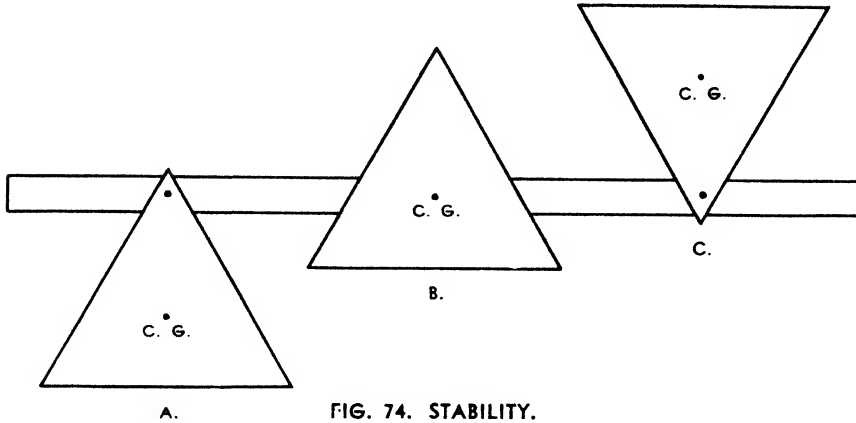

FIG. 74. STABILITY.
1. *positive (stable)*, 2. *neutral*, and 3. *negative (unstable)*. Fig 74 (A, B, C) illustrate these. If the triangle, Fig. 74A is moved it will assume